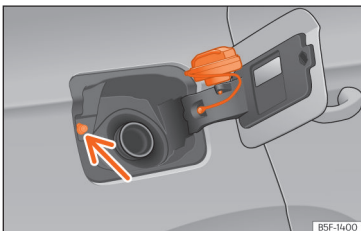

Fig. 201 Fuel tank flap with tank cap attached.
- Place it in the space on the hinge of the open flap >>> **Fig. 201**.
Avoid touching the fuel tank flap lock button >>> **Fig. 201** (arrow). The system will interpret that you have finished and cannot continue refuelling. Press the  button on the driver's door again to continue.